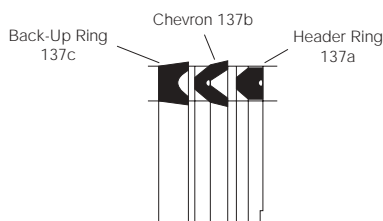

Fig. 6 Assembly Sequence of Chevron Seal Components
- 3 Fit the wiperseal (40) into the groove closest to the outside face of the gland, **with the lip facing outwards**.
- 5 Referring to figure 6, identify the back-up ring (137c) from the set of chevron seals and insert it into the gland from the cylinder end, closed end first, as shown in figure 3. Insert all the chevrons (137b) in the same manner, **with the lips of the seals facing the inner (cylinder) end of the gland**. When all the chevrons have been fitted, install the header ring (137a) with its angled face against the last chevron, as shown.
- 6 Each gland cartridge kit contains an O-ring (45) which acts as a seal and torque prevailing lock between the gland and head. This is a static seal, and may be left in place unless faulty. If damaged, the old O-ring and back-up washer (134) – if fitted – should be removed from the head using a sharp pointed instrument, and the groove thoroughly cleaned. Lubricate the replacement parts, and fit the O-ring into the groove, followed by the back-up washer.